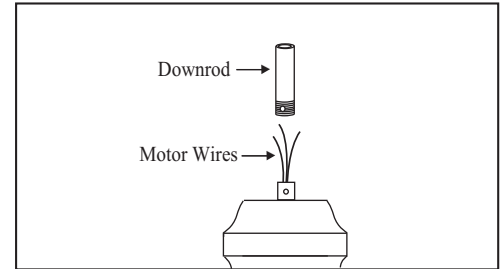

Figure 8
5. Carefully feed motor wires up through the downrod. Thread the rod into the coupling. Next line up up holes and replace cotter pin and clevis pin. Tighten set screws. (Figure 8)